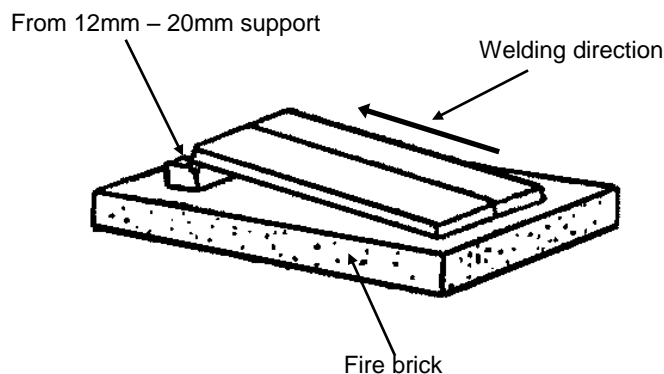

FIG 6.
- Place the workpiece on a firebrick and support it at one end. (Fig 6)